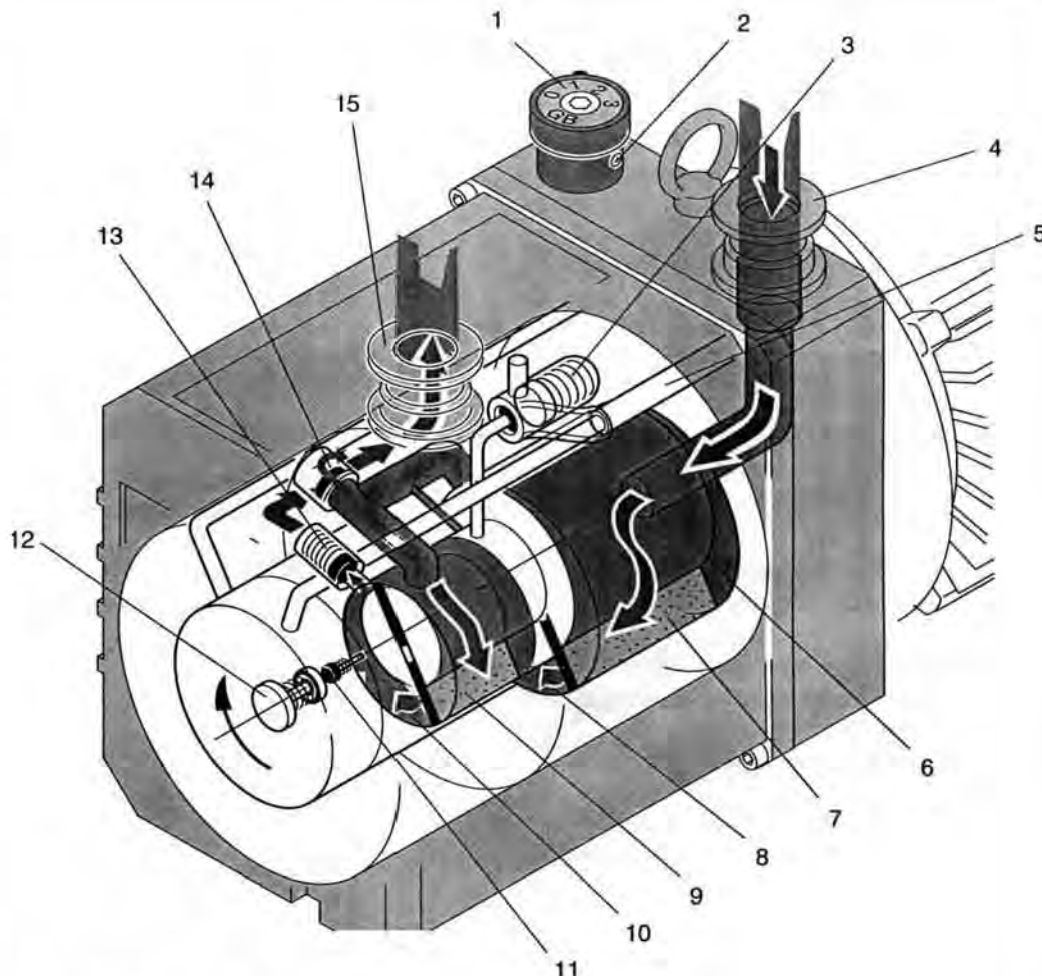

Fig. 2 Sectional view through a TRIVAC D 2,5 E pump
**Key to Fig. 2**
- 7 Vane (HV)
- 9 Vane (FV)